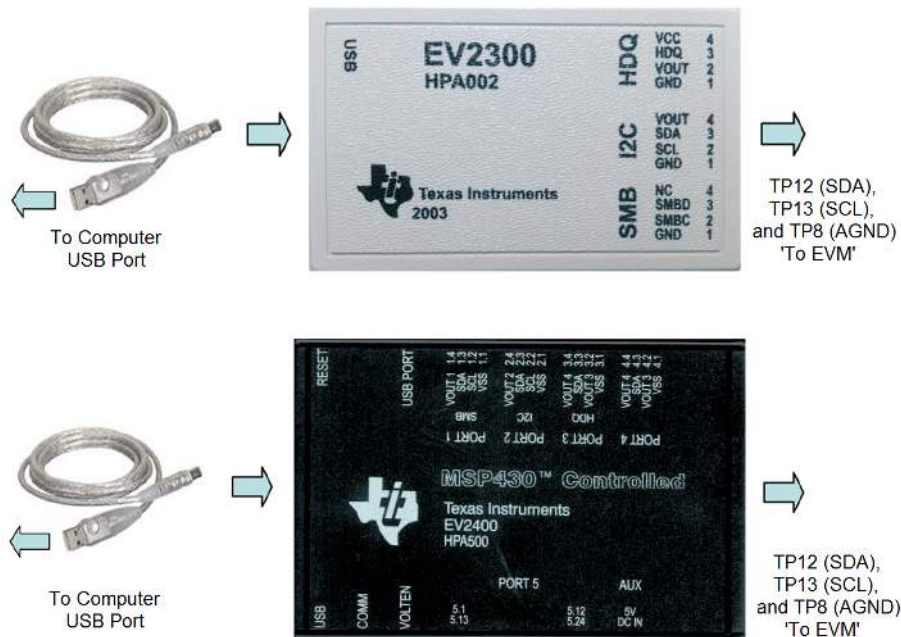

Figure 1. Connections of the EV2300 or EV2400 Kit
- Step 6. Connect the USB interface adapt to the computer and connect SDA, SCL, and GND to TP12(SDA), TP13(SCL), and TP8 (AGND) on the EVM, respectively. Figure 1 shows the connections.